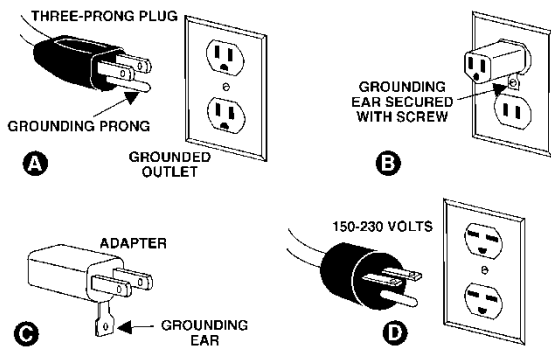

Figure 6-1
The JWBS-15 and JWBS-18 Band Saw are for use on a nominal 115-V circuit, and have a grounded plug that looks like the plug illustrated in sketch A in Figure 6-1. A temporary adaptor that looks like the adaptor illustrated in sketches B and C may be used to connect this plug to a 2-pole receptacle as shown in sketch B if a properly grounded outlet is not available. The temporary adaptor should be used only until a properly grounded outlet can be installed by a qualified electrician. The green colored rigid ear, lug, or the like extending from the adaptor must be connected to a permanent ground such as a properly grounded outlet box cover. Whenever the adaptor is used, it must be held in place by a metal screw.
2. The 115V attachment plug supplied with the band saw (A, Figure 6-1) must be replaced with a UL/CSA listed plug suitable for 230V operation (D, Figure 6-1).
The band saw with a 230V plug should only be connected to an outlet having the same configuration (D, Figure 6-1). No adapter is available or should be used with the 230V plug.
This tool is intended for use on a circuit that has an outlet that looks like the one illustrated in **D**, Figure 6-1. The tool has a grounding plug that looks like the plug illustrated in **D**. Make sure the tool is connected to an outlet having the same configuration as the plug. No adapter is available or should be used with this tool. If the tool must be reconnected for use on a different type of electric circuit, the reconnection should be made by qualified service personnel; and after reconnection, the tool should comply with all local codes and ordinances.